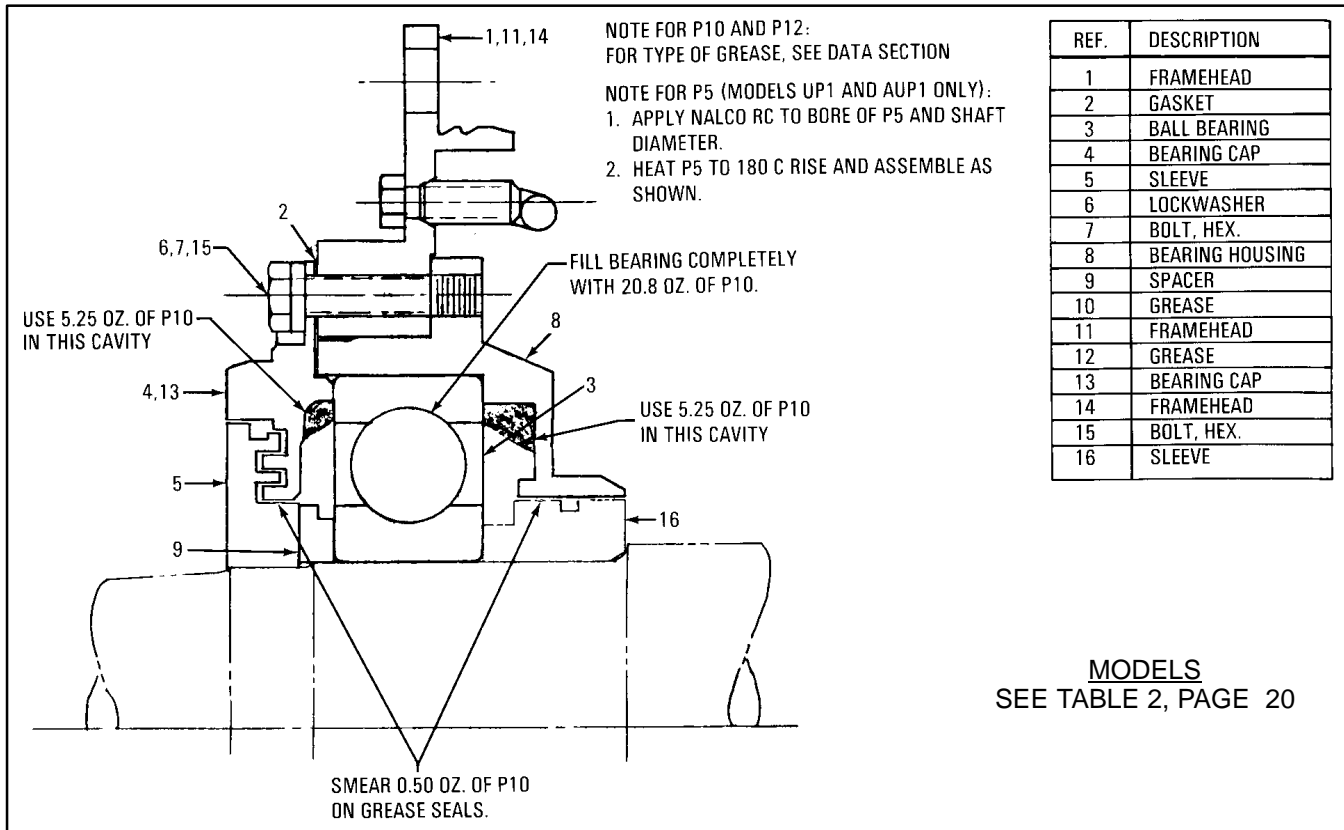

FIG. 38. COMMUTATOR-END BEARING ASSEMBLY (41B532745 CHG. F). E-39090A.
Refer to Fig. 38.
2. If sleeve (16) was removed, heat it to 110° C (230° F) and shrink it tight onto the shaft against the shoulder.
3. Pack 5.25 oz. grease into the outer circumference of the cavity of bearing housing (8).
4. Heat bearing housing (8) in an oven to 100° C (212° F). While hot, assemble ball bearing (3) into the housing firmly against the shoulder at the bottom of the bearing fit.
5. Fill all voids in the ball bearing completely with approximately 20.8 oz. of grease, Fig. 38. Smear 0.5 oz. of grease on the bearing housing and the bearing cap seals.
6. Heat the bearing and housing assembly in an oven to 100° C (212° F). While hot, assemble it onto the shaft, with the inner race tight against sleeve (16).